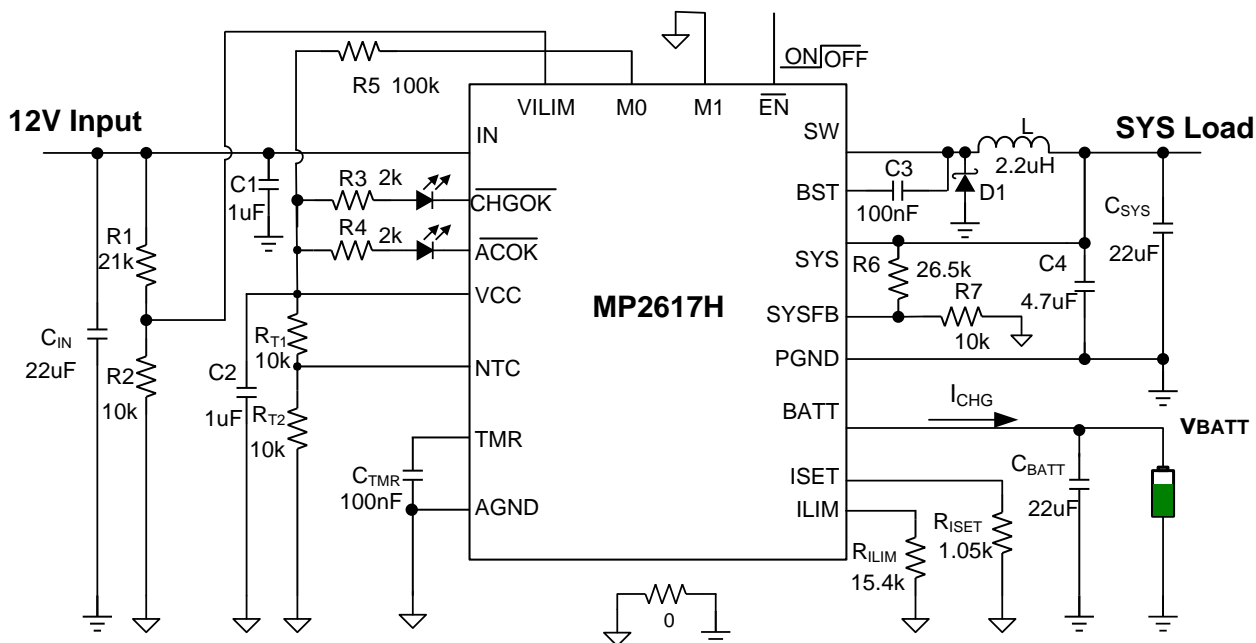

**Figure 9: Typical Charge Application Circuit for 5V input**
**Table 6: The Key BOM of Figure 9.**